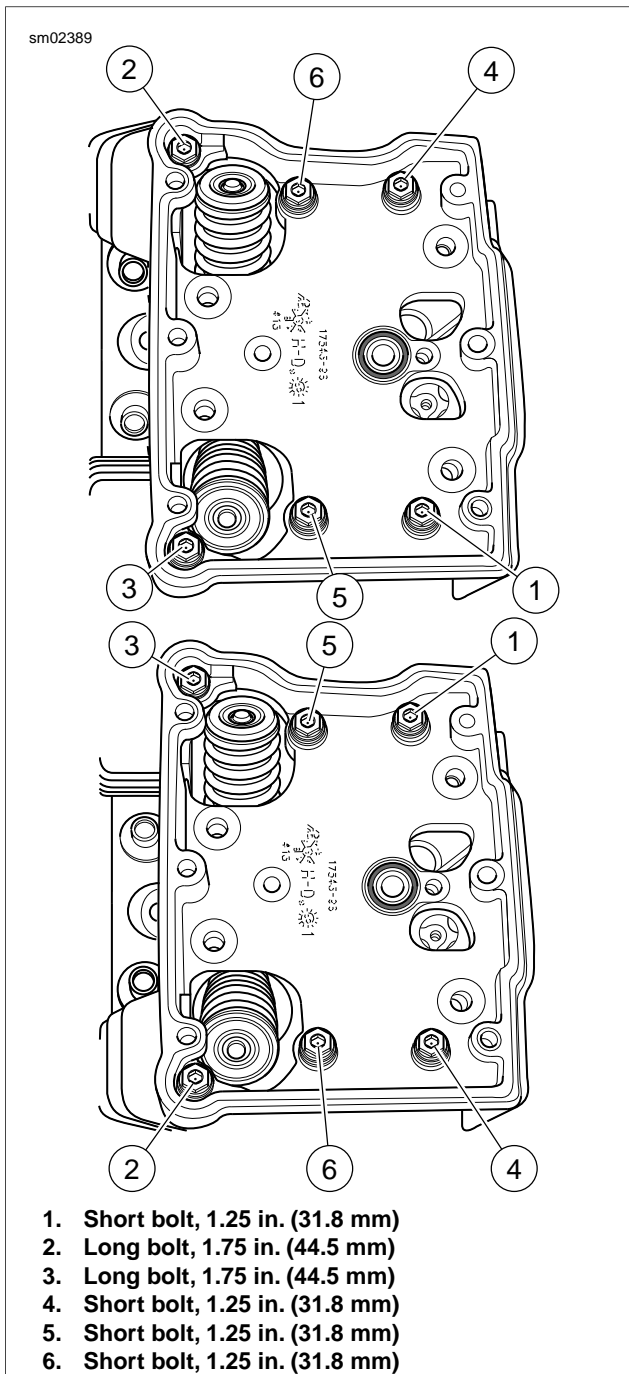

Figure 3-43. Rocker Housing Torque Sequence and Bolt Size
8. See Figure 3-43. Apply a small dab of LOCTITE THREADLOCKER 243 (blue) to threads of six rocker housing bolts. Loosely install the rocker housing bolts. Place two long bolts on the left side of the engine and four intermediate bolts in the interior. Alternately tighten the bolts to 120-168 **in-lbs** (13.6-19.0 Nm) in the sequence shown.